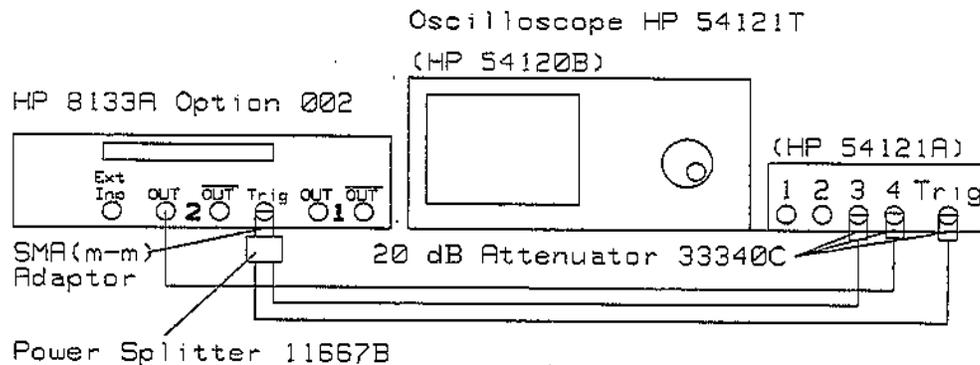

Figure 3-2.
1. If you have the equipment set up for Chapter 2, connect the Channel 4 input on the 'scope to the Channel 2 ~~PULSE/DATA~~ output of the HP 8133A, as shown in Figure 3-2. Either **DISABLE** the Channel 1 output, or disconnect it from Channel 2 of the 'scope.